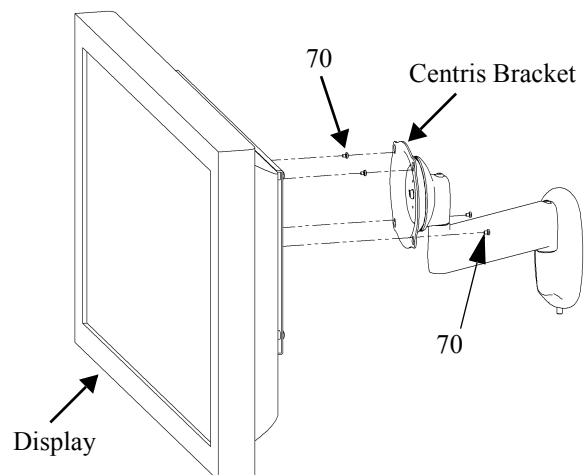

Figure 10: Attach Display to Centris Bracket
1. Start two M4 x 5mm Phillips pan head screws (70) into the top two mounting holes of the previously attached interface bracket. (see figure 10)
3. Install the remaining two M4 x 5mm Phillips pan head screws (70) into the bottom mounting holes of the display.
4. Secure the display to the mount (Centris bracket) by tightening all four M4 x 5mm Phillips pan head screws (70). (see figure 10)